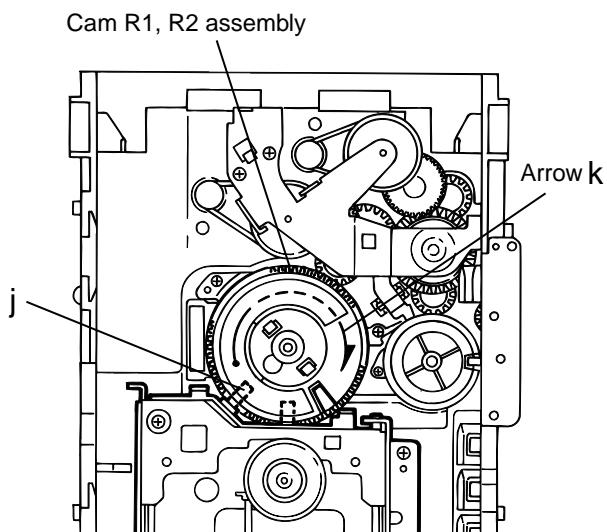

Fig.11
(See Fig.11 and 12 )
1. For dismounting only the CD mechanism without removing the CD mechanism assembly, align the shaft "j" of the CD mechanism assembly to the position shown Fig.11 while turning the cam R1 and R2 assembly in the arrow direction "k".